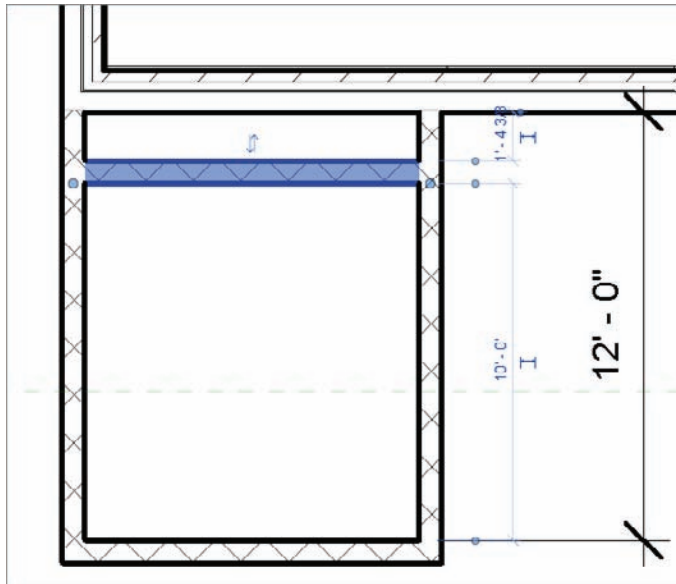

FIGURE 2.28 The shaft wall
You need one more shaft wall to create a separation between the exterior walls and the shaft, as shown in Figure 2.28. Perform these steps:
6. Press Esc twice. Figure 2.28 shows the shaft wall. Make sure you check your dimensions before proceeding.